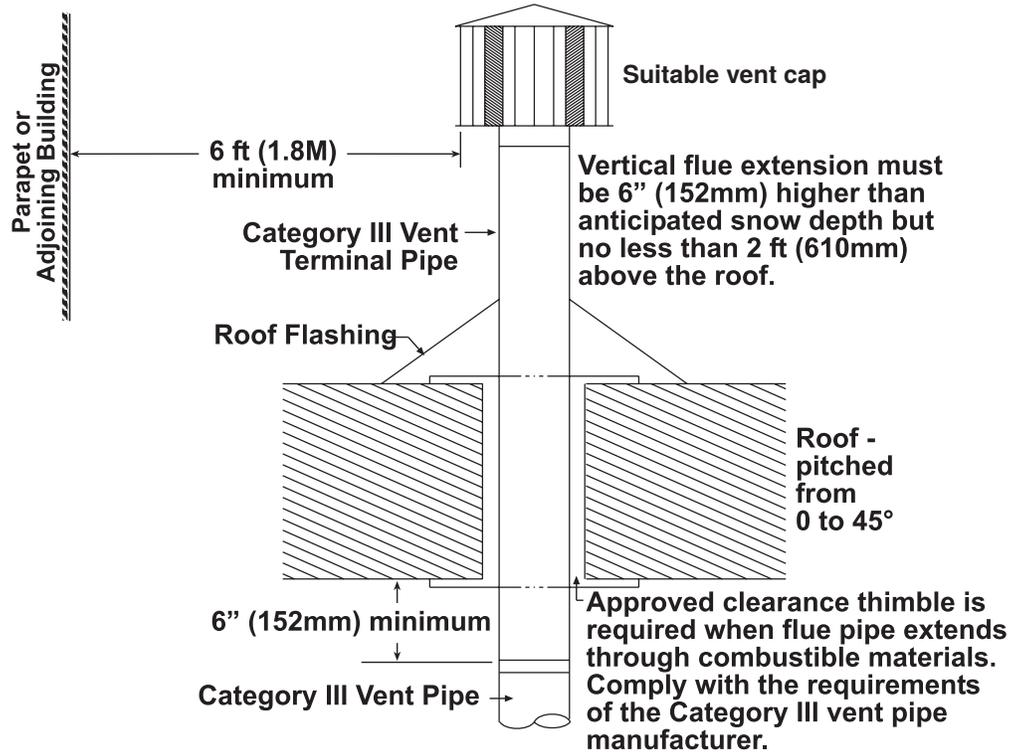

Figure 12. Vertical Vent Terminal (Residential Installations)
- c. Refer to instructions shown in Figure 12 to install vertical vent terminal.